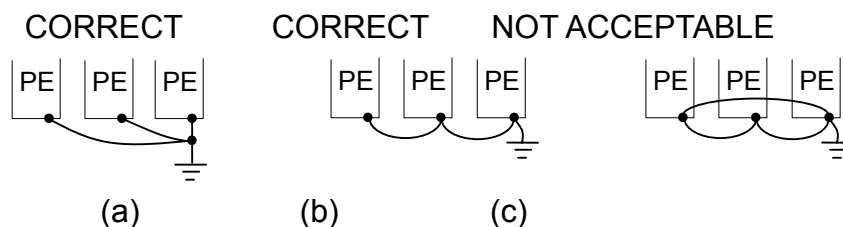

Fig. 3 Grounding of Three 7200GS Units
- (1) Ground resistance should be 100 ohms or less.
- (2) Never ground 7200GS in common with welding machines, motors, and other large-current electrical equipment, or ground pole. Run the ground lead in separate conduit from leads for large-current electrical equipment.
- (3) Use the ground leads which comply with AWG standards and make the sure the length is as short as possible.
- (4) Where several 7200GS units are used side by side, it is preferable to ground each unit separately to ground poles. However, connecting all the ground terminals of 7200GS in parallel while grounding only one of the 7200GS's to the ground pole is also permissible (Fig. 3). Be sure not to form a loop with the ground leads.